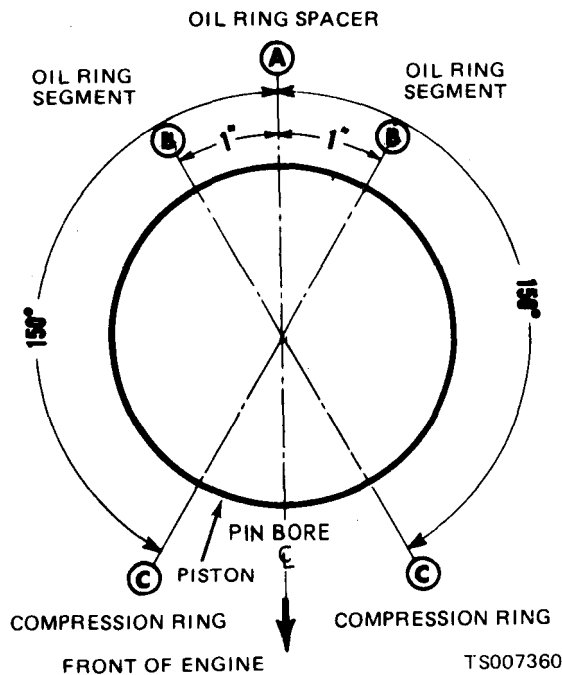
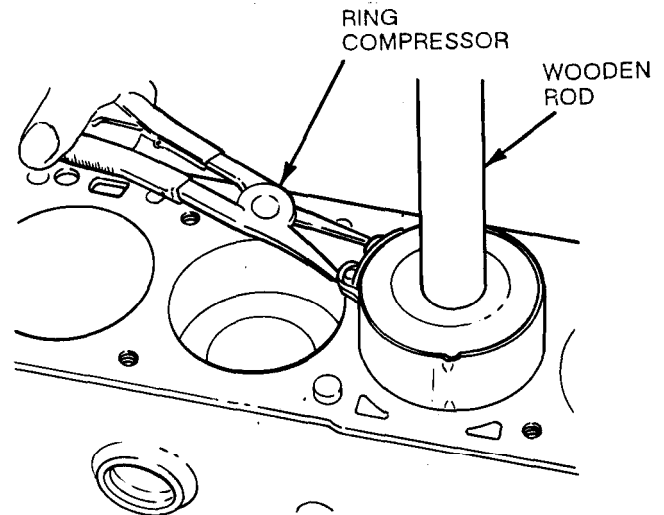

Figure 6-31. Piston Ring Gap Spacing.
Figure 6-32. Piston Installation.
(1) Clean the oil pump inlet tube screen and the oil pan and block gasket surfaces.
(2) Oil the piston rings, pistons and cylinder walls with light engine oil.
(3) Be sure to install the pistons in the same cylinders from which they were removed or to which they were fitted. The connecting rods and bearing caps are numbered from 1 to 6 beginning at the front of the engine. The number on the connecting rod and bearing cap must be on the same side of rod when installing in the cylinder bore. If a connecting rod is ever transferred from one cylinder block to another or from one cylinder to another, new bearings should be fitted and the connecting rod should be renumbered to correspond with the new cylinder number.
(4) Make sure the ring gaps are properly spaced around the circumference of the piston (figure 6-31). Oil the rings, then install a piston ring compressor on the piston. Make sure that the indentation in the head of piston is toward the front, then push the piston into its bore with the handle end of a hammer until it is slightly below the top of the cylinder (fig. 6-32). Be sure to guide the connecting rods to avoid damaging the crankshaft journals.